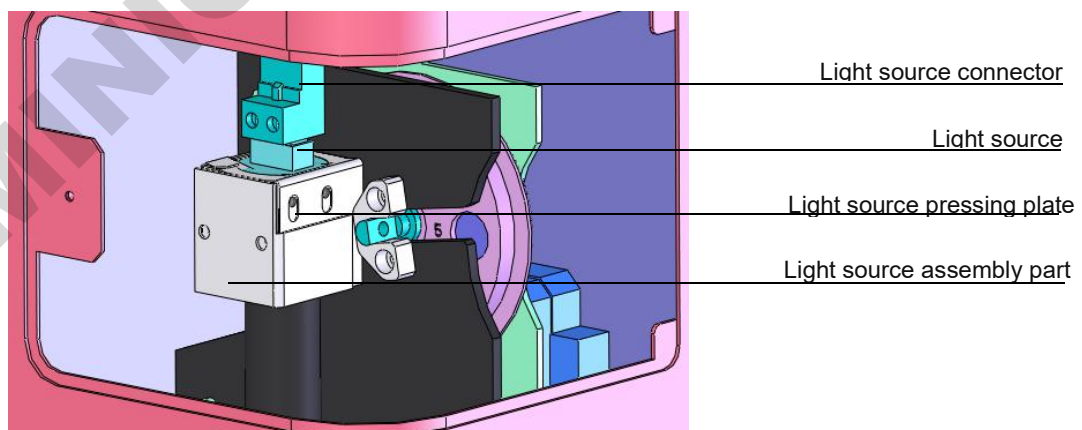

fig 55
- a. Open the back door of the instrument, light source showed as Fig 55, loose screws on light source connection by a small screw driver, remove connection upwards.